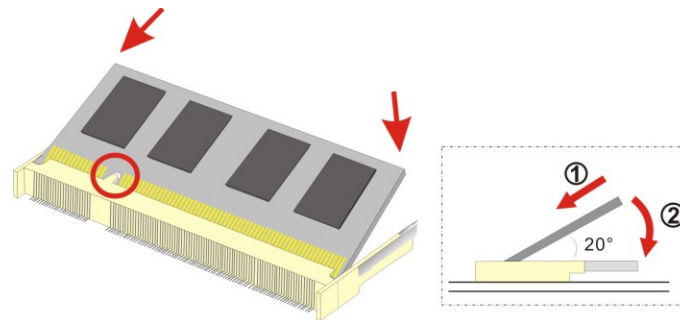

Figure 4-1: SO-DIMM Installation
To install a SO-DIMM into a SO-DIMM socket, please follow the steps below and refer to **Figure 4-1**.
Step 3: Insert the **SO-DIMM**. Push the SO-DIMM chip into the socket at an angle. (See **Figure 4-1**)
Step 4: Open the **SO-DIMM socket arms**. Gently pull the arms of the SO-DIMM socket out and push the rear of the SO-DIMM down. (See **Figure 4-1**)